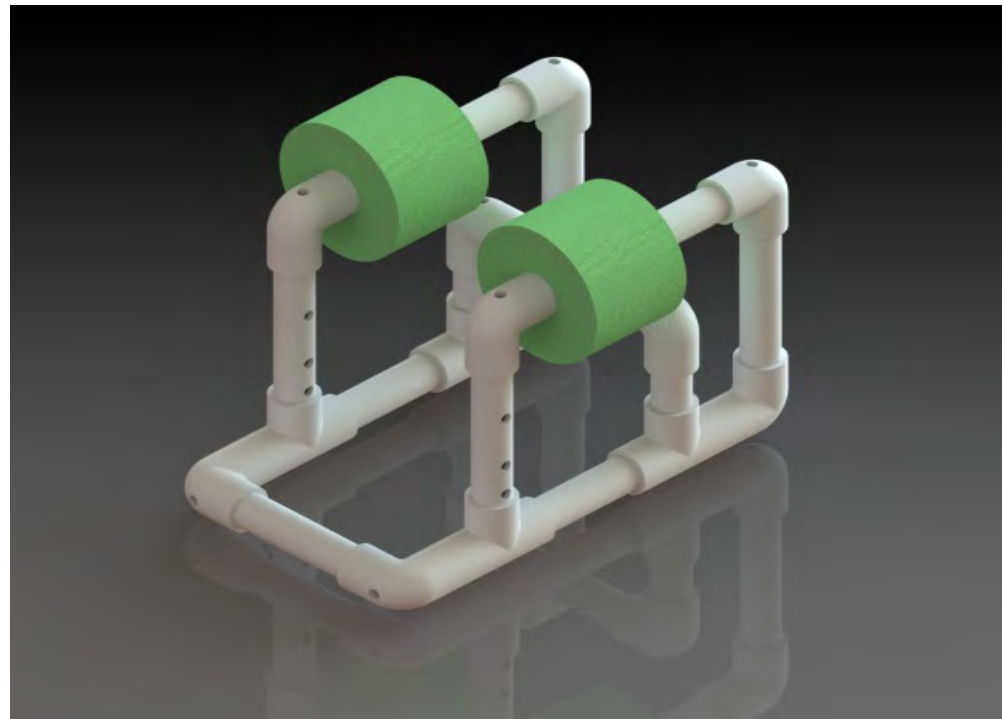

Figure 1.3-2: Assembled ROV Frame with Top Pipes and Foam Floats
2. With the frame placed on the floor or on a sturdy tabletop, push down hard on all parts of the vehicle frame, turning and pressing from all sides, so that the PVC fittings and pipe sections all fit together *very tightly*. *Be sure to press HARD, or use a rubber mallet to firmly tap on all elbows until the ends of the pipe sections bottom out inside the pipe fittings.* Adjust the sides and the bottom of the frame as needed to square up the vehicle, as shown in Figure 1.3-2 (or tilt the sides at an angle if you wish!). **It is important to do this before installing the bottom payload netting.**